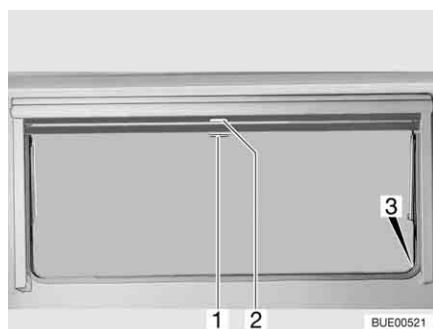

Fig. 72 Hinged window
- Pull blind at the handle (Fig. 72,2) downwards. If the blind is to be completely closed, it is suspended into the locking devices (Fig. 72,3) situated on both sides of the window frame.
- If the blind is completely closed: Press handle (Fig. 72,2) downwards and, at the same time, tilt it slightly inward. The blind can be taken out of the locking devices situated on both sides of the window frame.
- If the blind is in an intermediate position: Pull the handle (Fig. 72,2) slightly downwards until the locking device releases.
- Pull insect screen at the handle (Fig. 72,1) down and hang it into the locking devices (Fig. 72,3) situated on both sides of the window frame.
- Press handle (Fig. 72,1) downwards and, at the same time, tilt it slightly inward. The insect screen can be taken out of the locking devices situated on both sides of the window frame.